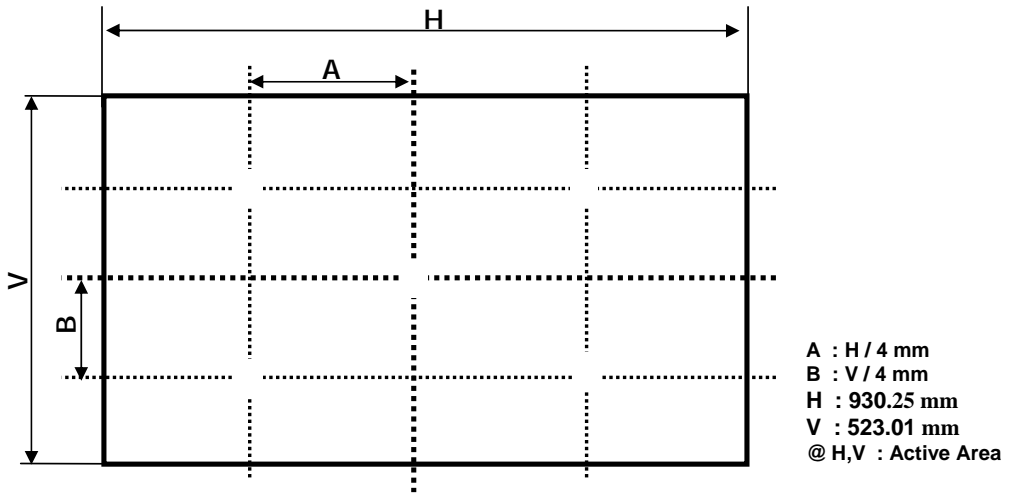

FIG.2 Measure Point for Luminance
n = the Position number(1, 2, 3, 4, 5), For more information, see FIG 2.
2. Surface luminance are determined after the unit has been 'ON' and 30min after lighting the backlight in a dark environment at  $25 \pm 2^\circ\text{C}$ . Surface luminance is the luminance value at center 1-point across the LCD surface 50cm from the surface with all pixels displaying white. For more information see the FIG. 2.
For more information, see the FIG. 2.